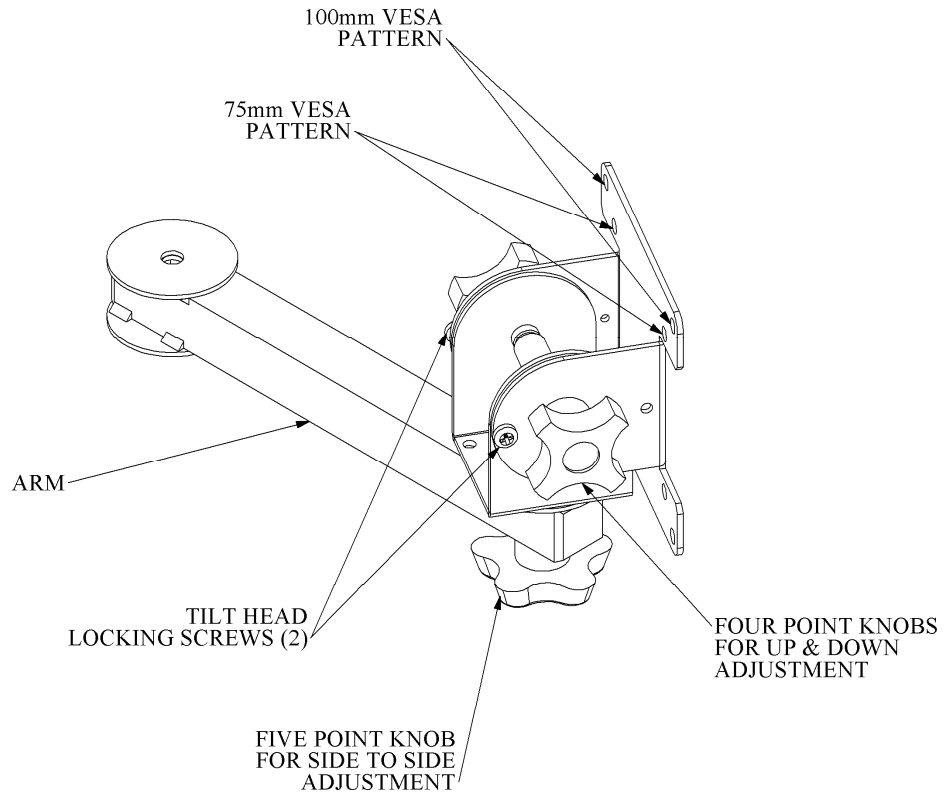

Figure 3 - An 8" arm and a VESA tilt head
2. Slightly loosen the large five point knob below the end of the arm just enough so that the tilt head or printer tray will turn (See Figure 3).
2. Slightly loosen both of the four point knobs on both sides of the tilt head just enough so that the monitor can be moved up and down slightly (See Figure 3).
2. Tighten the three locking knobs as firmly as possible using only your hands (See Figure 3).
1. Support the entire weight of the screen. Doing one at a time, carefully loosen the locking screws until only three threads of the screw shaft end can be seen protruding through the metal next to the anti-slip washer (See Figure 3).